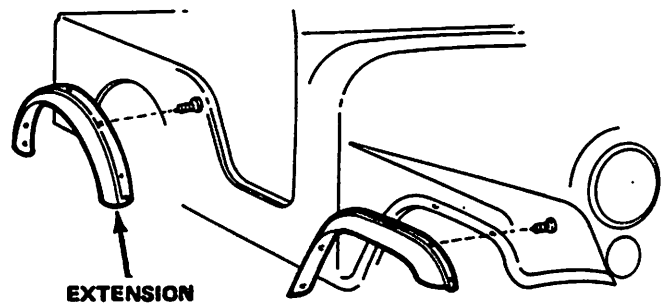

Fig. 3F-14 Fender Extension—CJ and Scrambler Models
- (1) Remove screws and nuts attaching inner and outer reinforcements and fender extension to fender (fig. 3F-14).